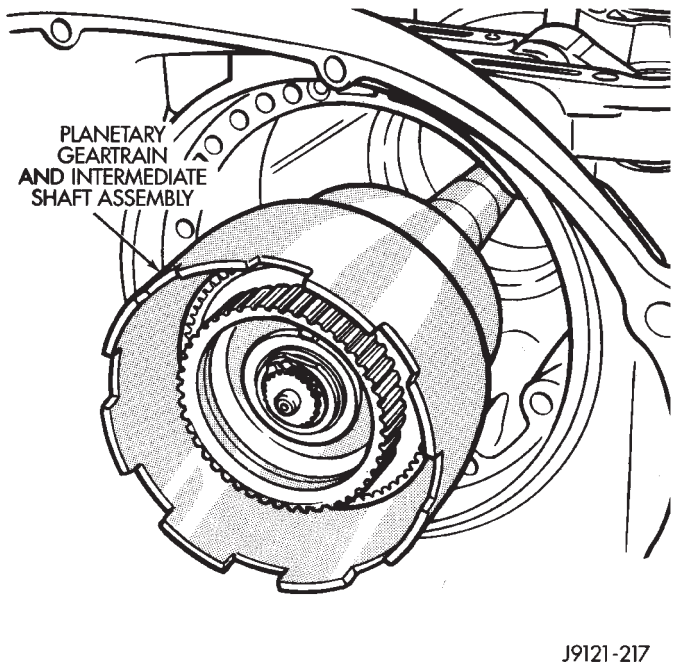

Fig. 111 Installing Planetary Geartrain
(9) Install planetary geartrain assembly (Fig. 111).
(10) Install thrust plate on intermediate shaft hub